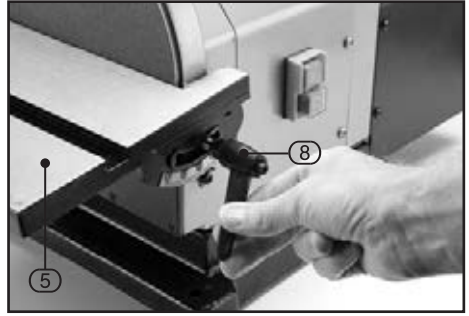

FIG.7
8.5 DISC WORK TABLE ANGLE ADJUSTMENT - FIG. 7